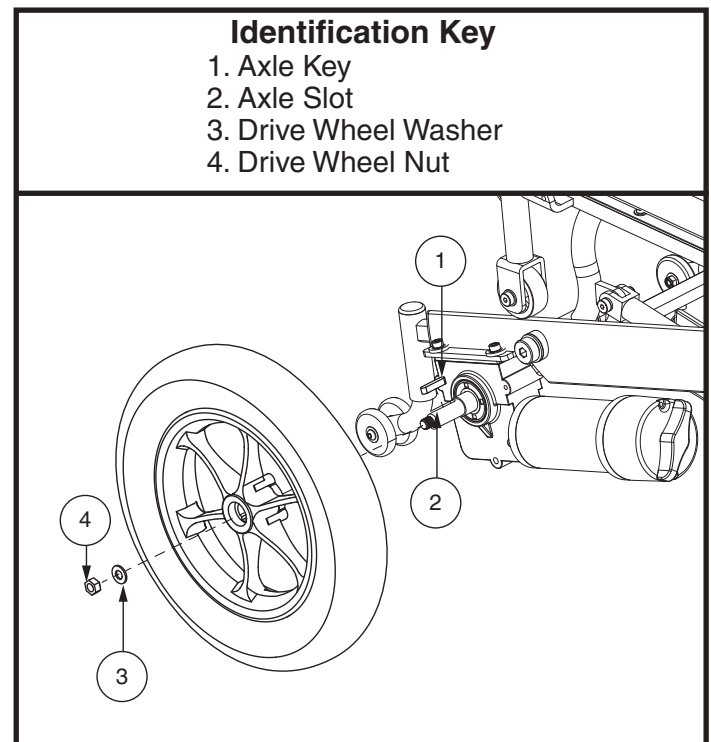

Figure 14. Drive Wheel
3. Remove the drive wheel nut and washer from the axle. **See figure 14.**